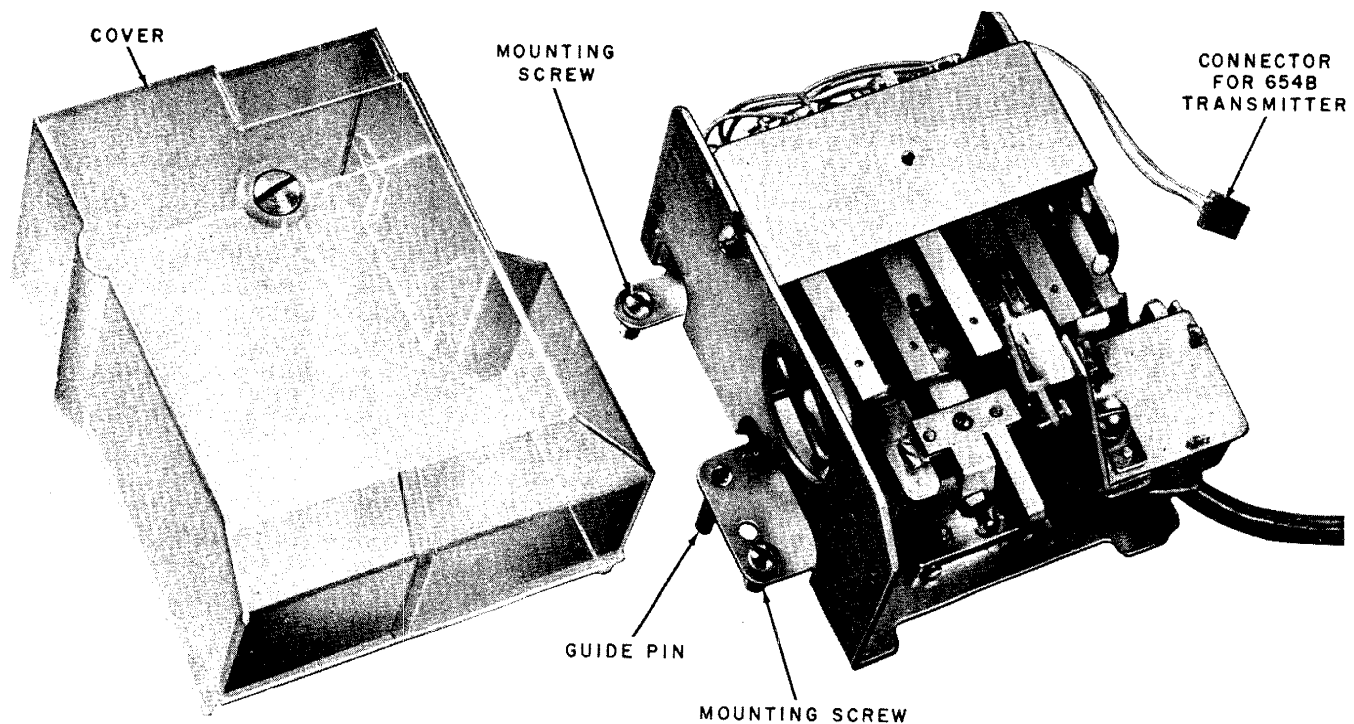

Fig. 9—Totalizer
- (1) Disconnect 654B transmitter by separating connector (Fig. 9).
- (2) Remove three totalizer mounting screws from chute. (These are captive screws and will not fall out of totalizer.)
- (3) Carefully remove totalizer from chute.
- (1) Remove totalizer cover by loosening captive cover screw (Fig. 9).